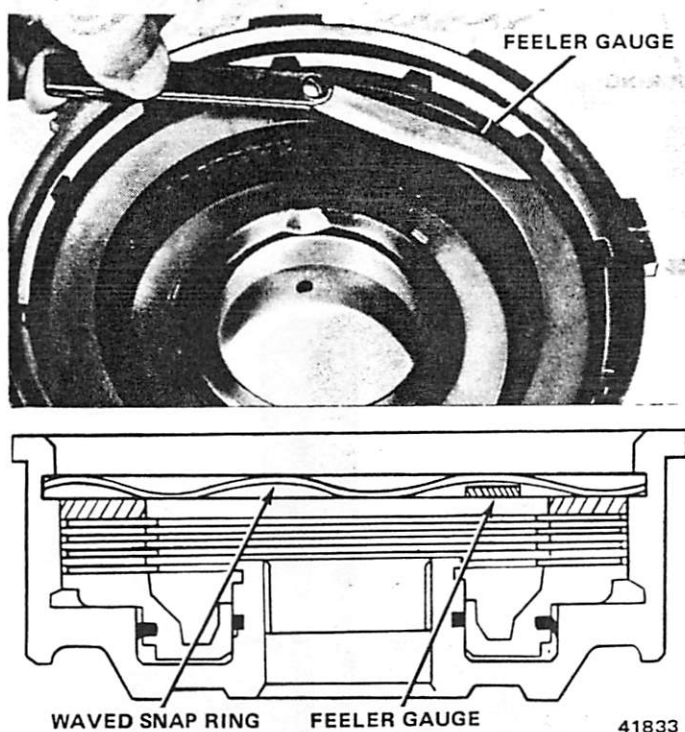

Fig. 2C-71 Measuring Front Clutch Pack Clearance
- (1) Remove large waved snap ring that retains pressure plate in clutch piston retainer (fig. 2C-72).
- (2) Remove pressure plate and clutch plates.
- (3) Install Compressor Tool J-24042 over piston spring retainer (fig. 2C-73).
- (4) Compress springs and remove snap ring.
- (5) Slowly release compressor tool until spring retainer is free of hub.
- (6) Remove compressor tool, retainer and springs.
- (7) Turn clutch retainer over and bump on wood block to dislodge and remove piston.
- (8) Remove seals from piston and retainer hub.